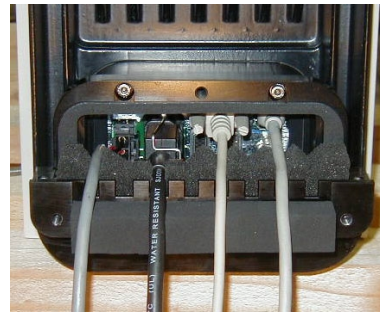

Figure 9-5. Lower Flange in Position
- c. Finally push down on the flange to secure it against the housing. See Figure 9-5. for the lower flange in the installed position.